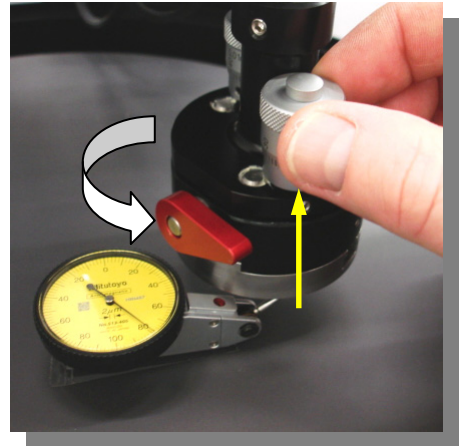

Figure 25: The indicator tip is aligned directly under the first micrometer head
- 6) Activate full sample rotation and stop it when the indicator tip is directly beneath the first micrometer head (Figure 25).